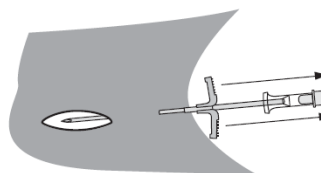

Figure 6
- While holding the introducer sheath in place, withdraw the introducer needle or tunneler (Figure 6).